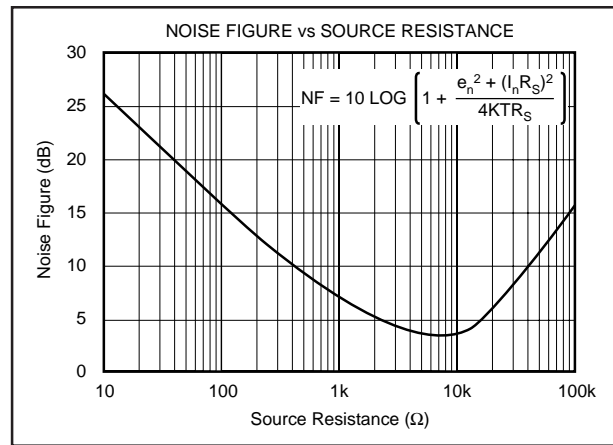

FIGURE 6. Noise Figure vs Source Resistance.
The OPA651 voltage noise spectral density is specified in the Typical Performance Curves. For RF applications, however, Noise Figure (NF) is often the preferred noise specification since it allows system noise performance to be more easily calculated. The OPA651's Noise Figure vs Source Resistance is shown in Figure 6.